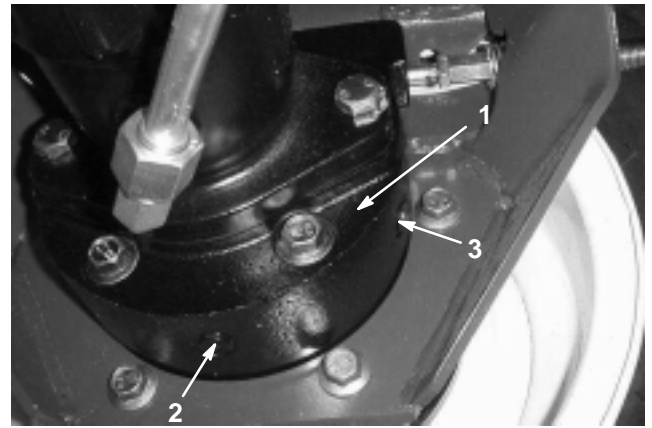

Figure 48
3. Place another drain pan under the brake housing on the other side of the wheel (Fig. 48).